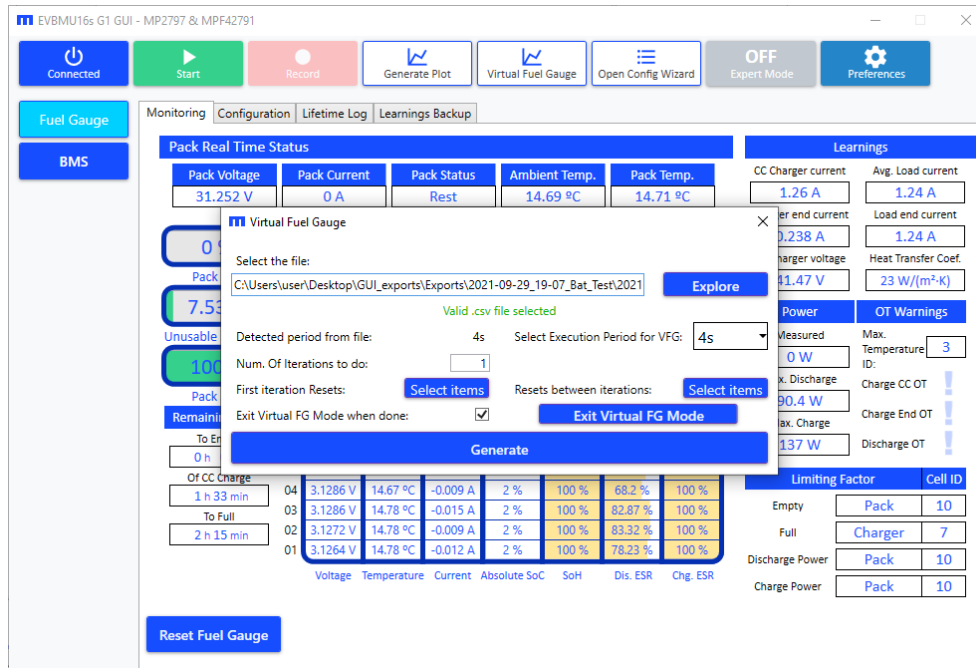

Figure 59: Virtual Fuel Gauge – Valid File Selected
- Select the number of iterations to run on the same data file, and users can select which fuel gauge estimates can be reset during the first iteration (and between iterations). For example, if the start of the file does not match the end, reset everything before the first iteration, and only reset the state-of-charge (SoC) between iterations (see Figure 59).
- Select “Exit Virtual FG Mode when done” to disable virtual fuel gauge mode on the evaluation board once all the iterations are done. Then the fuel gauge runs with the readings from its own board, and not the readings from the GUI. Otherwise, this process can be manually exited by clicking “Exit Virtual FG Mode” (see Figure 59 on page 44).